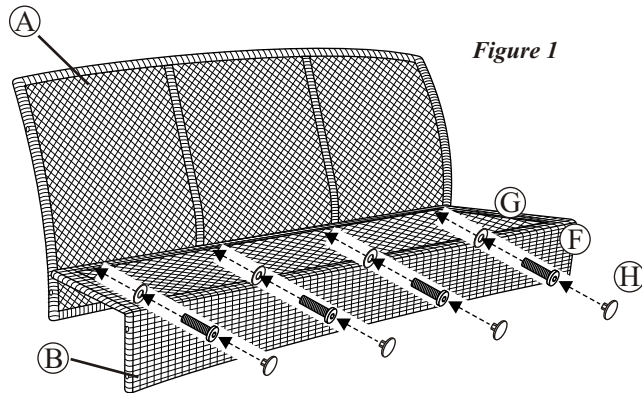

Figure 1
- Step 2:** Attach the seat frame to the back frame by using four 5/16"x40 mm bolts and washer as shown in *Figure 1*. Guide these bolts through the holes in the seat frame, into the fixed nuts already in place in the back frame. **Do not over tighten.**